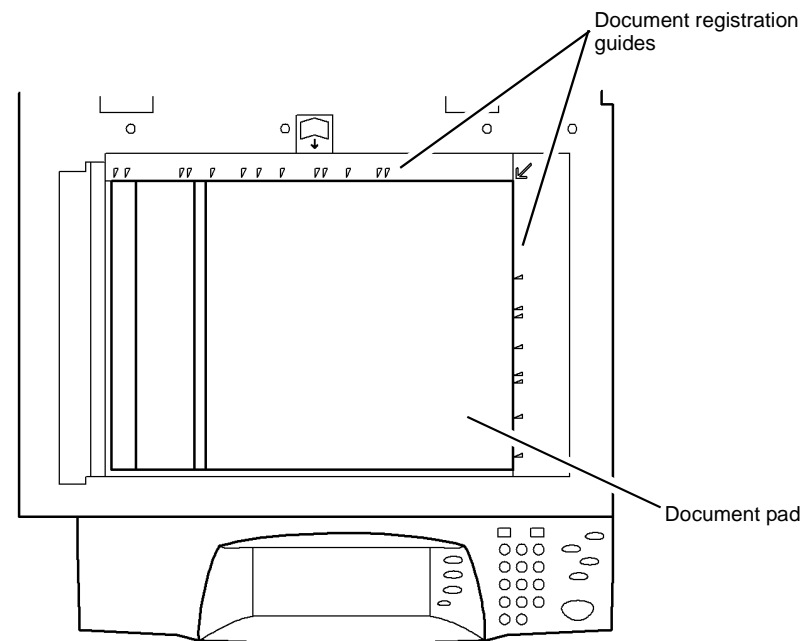

Figure 1 Document pad alignment
2. Align the document pad with the document registration guides as shown in Figure 1.